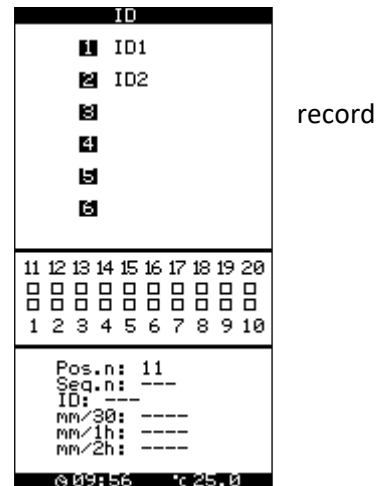

Figure 5
6.1. ID Function (1): Samples Identification
After selecting (1) ID, the instrument shows two options (ID1 and ID2) to the data (see Figure 5).